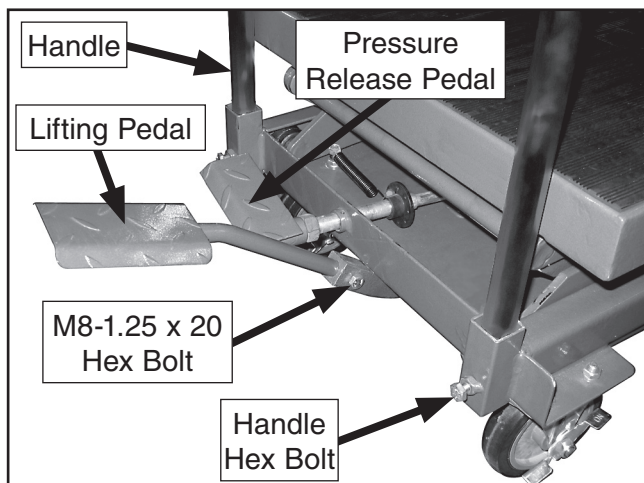

Figure 3. Assembly.
1. Slide the lifting pedal into the pedal shaft and secure in place with the M8-1.25 x 20 hex bolt as shown in **Figure 3**.
2. Place the handle in the handle sockets and secure with the M8-1.25 x 40 hex bolts (**Figure 3**).
- Push the pressure release pedal to lower the table (**Figure 3**).